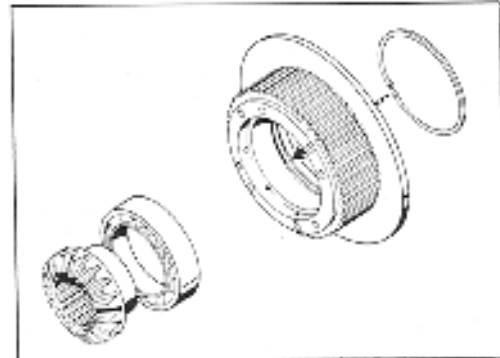

Fig. 27. Reverse Clutch Flange, Roller Bearing and Bevel Gear
9. Likewise press the other ball bearing into reverse clutch flange. Be sure to install snap ring in outermost groove of reverse flange (see fig.27). Then press bevel gear into ball bearing. Check that ball bearings on both flanges are well seated.